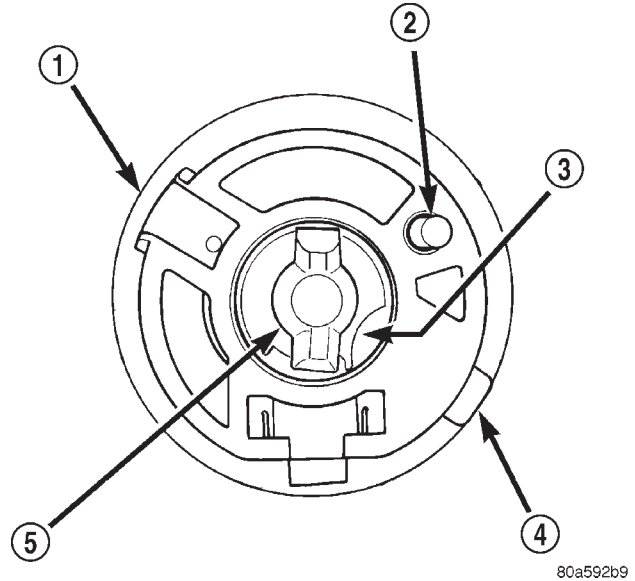
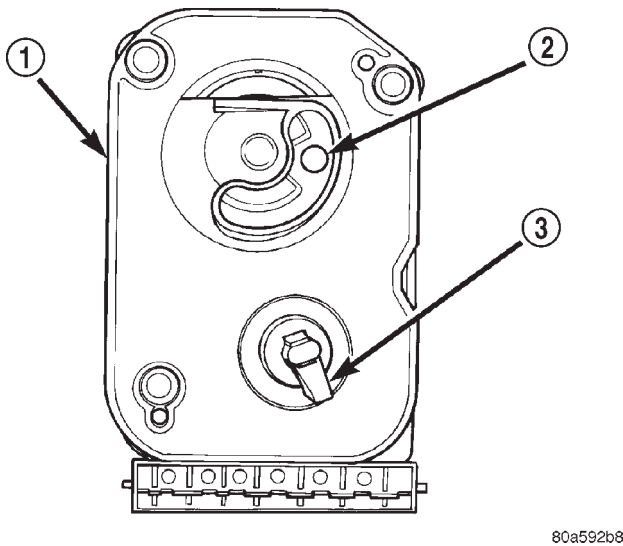
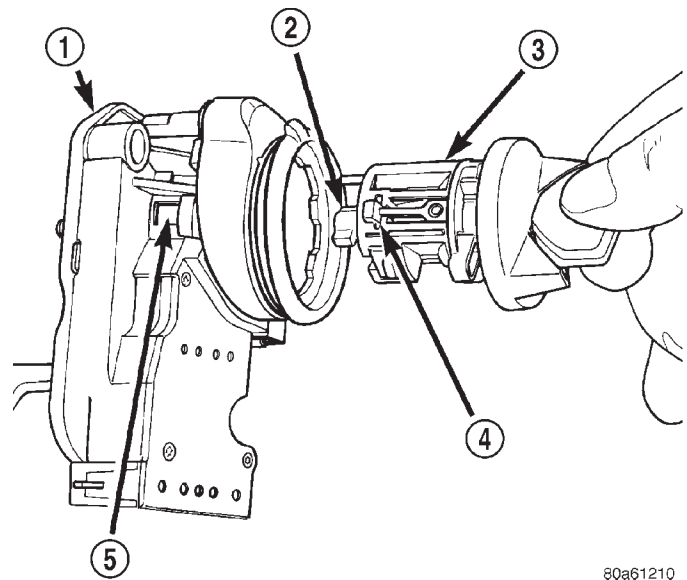

Fig. 39 Key Cylinder—Rear View
Fig. 38 Flag in RUN Position
Fig. 40 Installing Key Cylinder Into Switch
(1) Rotate flag (Fig. 38) on rear of ignition switch until in RUN position. This step must be done to allow tang (Fig. 39) on key cylinder to fit into slots (Fig. 36) within ignition switch.
(2) With key into ignition key cylinder, rotate key clockwise until retaining pin can be depressed (Fig. 39) or (Fig. 40).
(3) Install key cylinder into ignition switch by aligning retaining pin into retaining pin slot (Fig. 40). Push key cylinder into switch until retaining pin engages. After pin engages, rotate key to OFF or LOCK position.